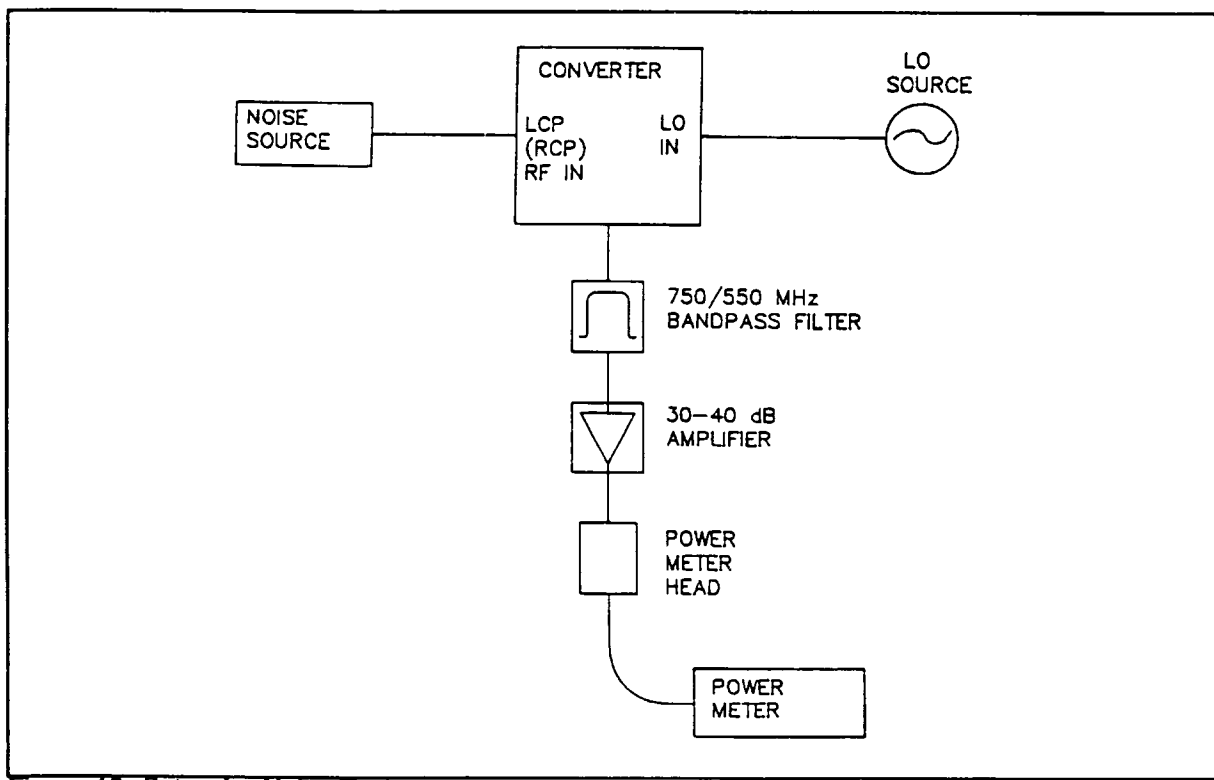

Figure 10 Setup for Noise Tests
1. Connect the equipment as shown in Figure 10 on the next page, using the broken line connections with the SMA termination on the LCP RF input.